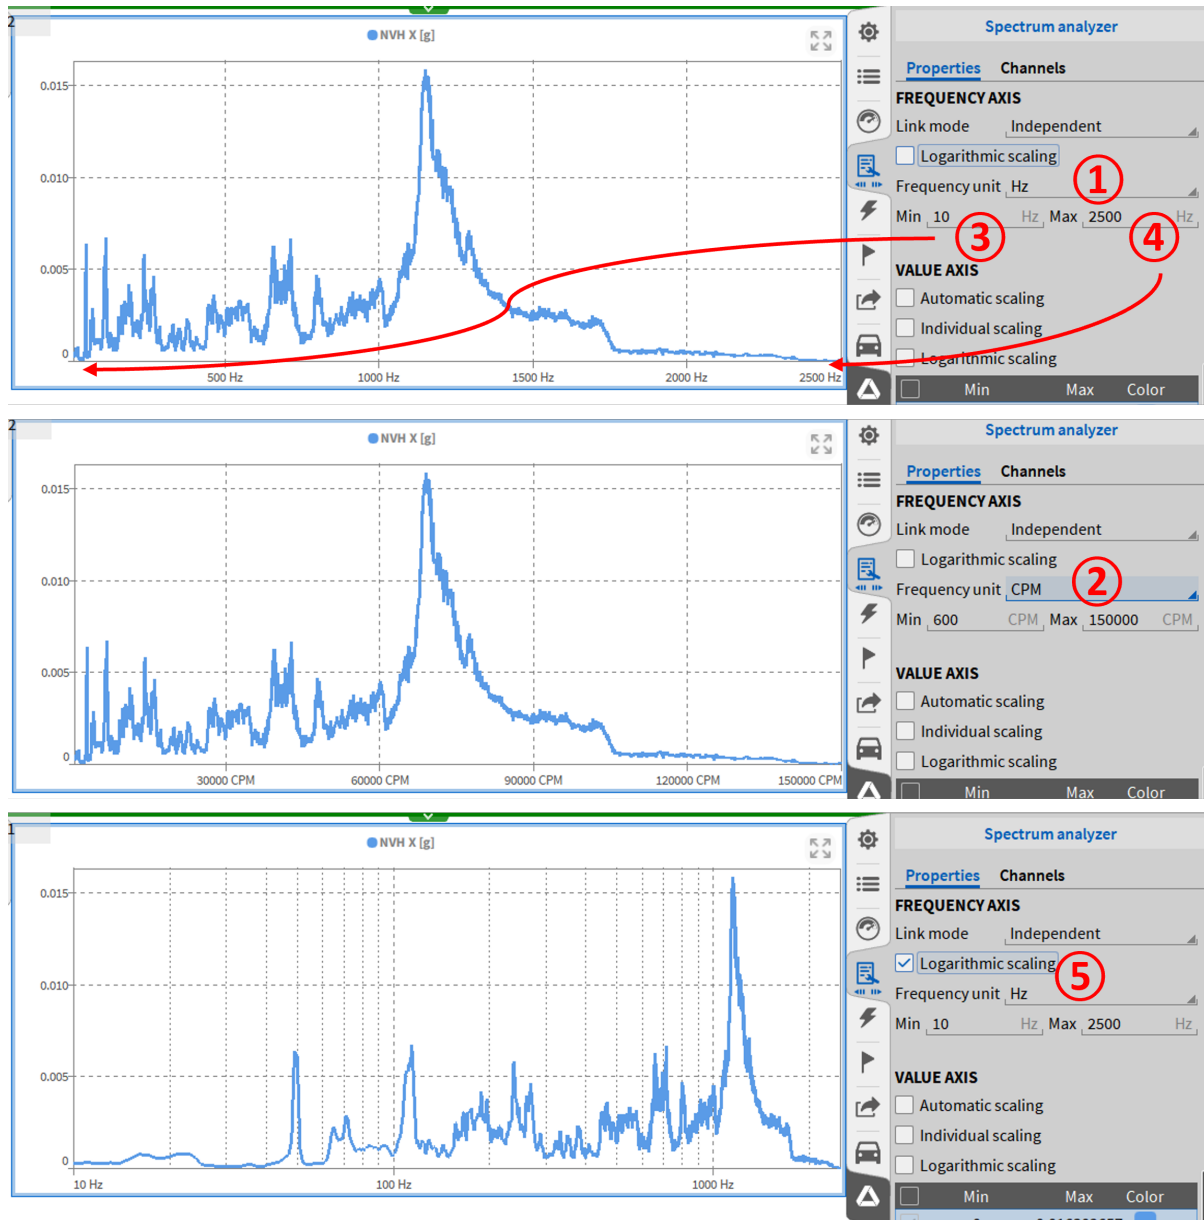

Fig. 8.41: Frequency axis settings
The unit of the X-axis is Hertz [Hz] per default (see ① in Fig. 8.41). The unit can be changed to Cycles Per Minute [CPM] which is defined as $[\text{Hz}] * 60$ (see ② in Fig. 8.41). The axis' minimum can be freely defined (see ③ and ④ in Fig. 8.41). The scaling can optionally be set from linear to logarithmic scaling (see ⑤ in Fig. 8.41).